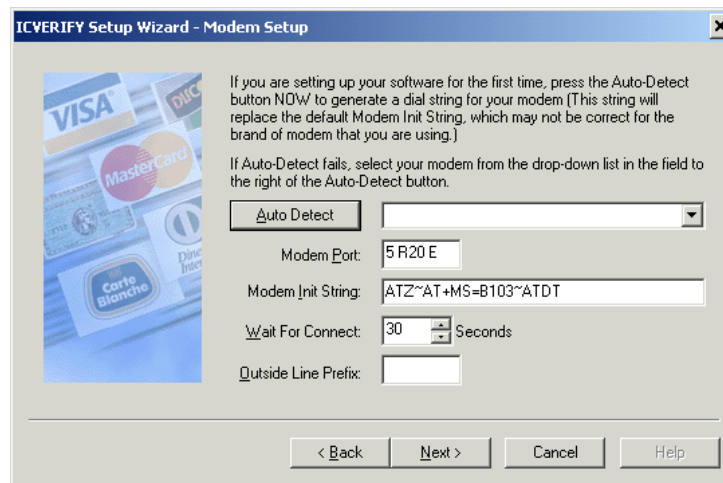

Figure 3.1.4-1: Modem Setup
21. Stop once you reach the "Modem Setup" screen (see **Figure 3.1.4-1** below).